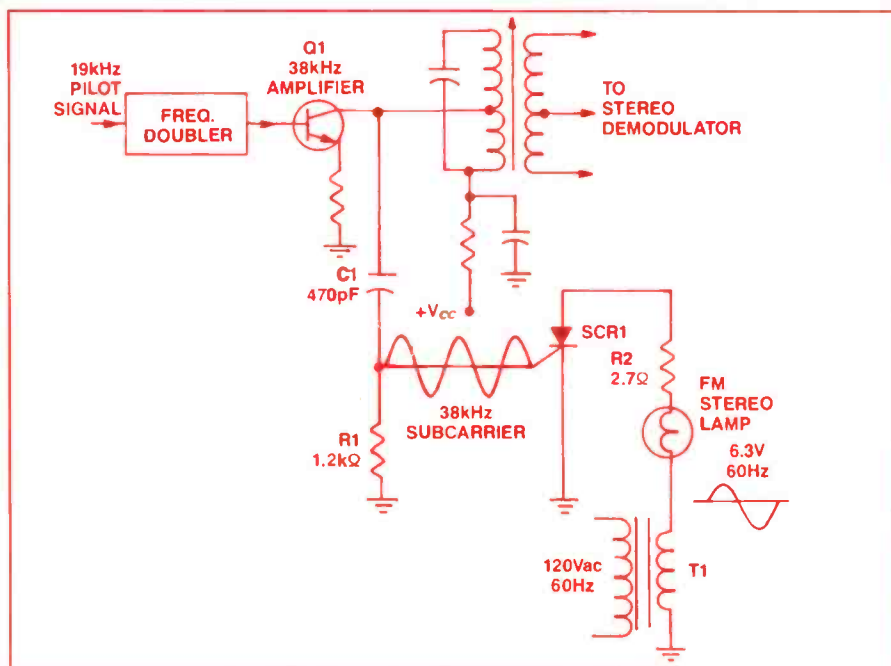

Figure 1. If there is an internal; (anode to cathode) short in the SCR, will the FM stereo lamp be on all the time, off all the time, or will it be destroyed?
2. The circuit of Figure 1 was given in an article titled "Thyristors from A to Z" by Lambert C. Huneault. The article was in the February 1990 issue of *ES&T*. As explained in the article, if there is an internal (anode/cathode) short in the SCR the FM stereo lamp will be: